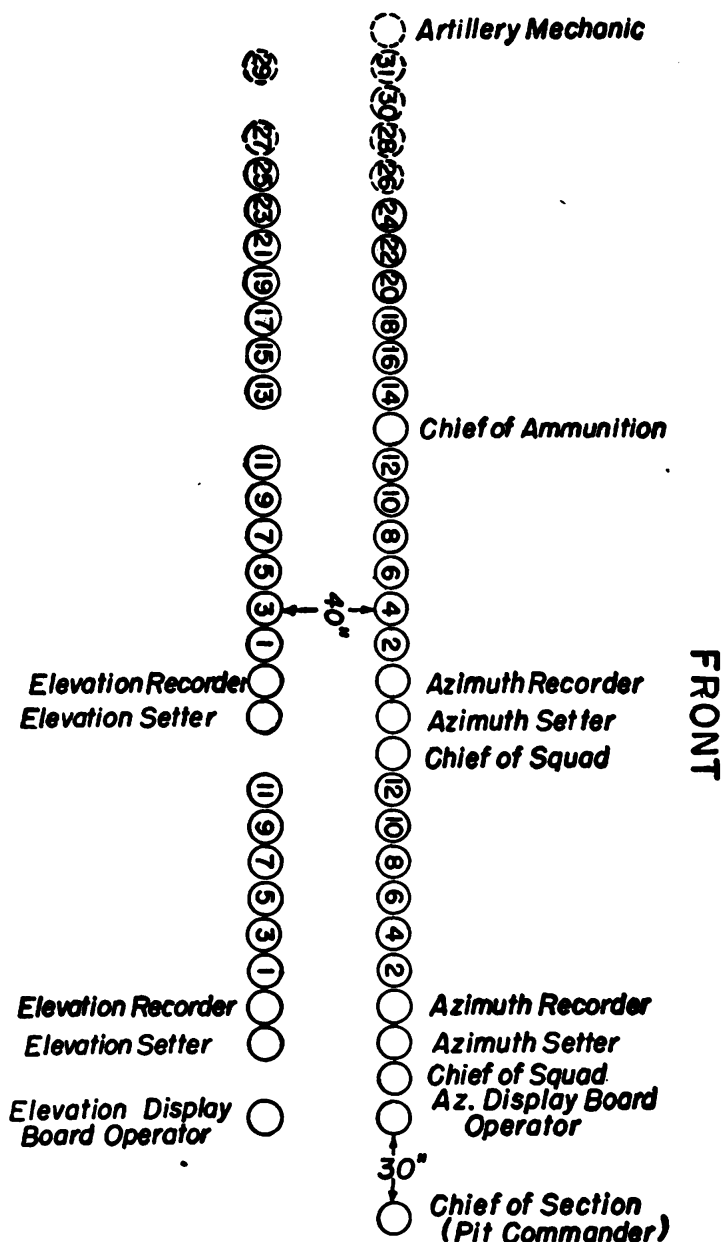

FIGURE 13.—Formation of gun section for 12-inch mortar.
19. Notes on drill.—Q. What is the formation for the gun section of the 12-inch mortar? A. See figure 13.
A. See figure 13.